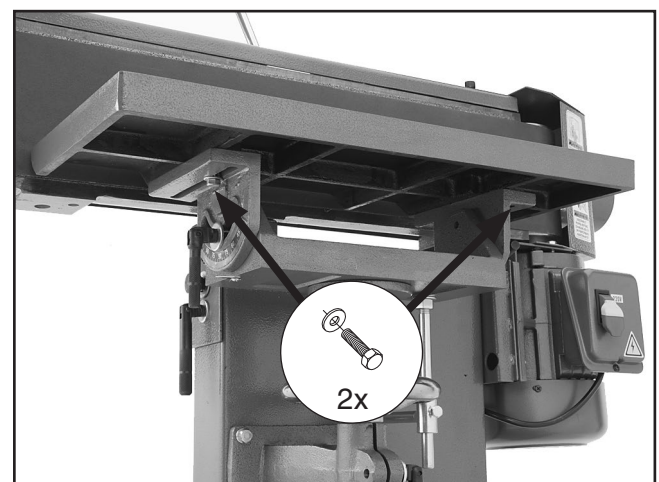

Figure 23. Work table installed.
14. Leaving the table trunnion lock handles slightly loose, secure the work table to the trunnions using the two $\frac{5}{16}$ "-18 x 1" hex bolts and $\frac{5}{16}$ " flat washers, as shown in **Figure 23**. Adjust the table so it is approximately $\frac{1}{8}$ " to $\frac{3}{16}$ " from the sanding platen, then tighten the mounting bolts.